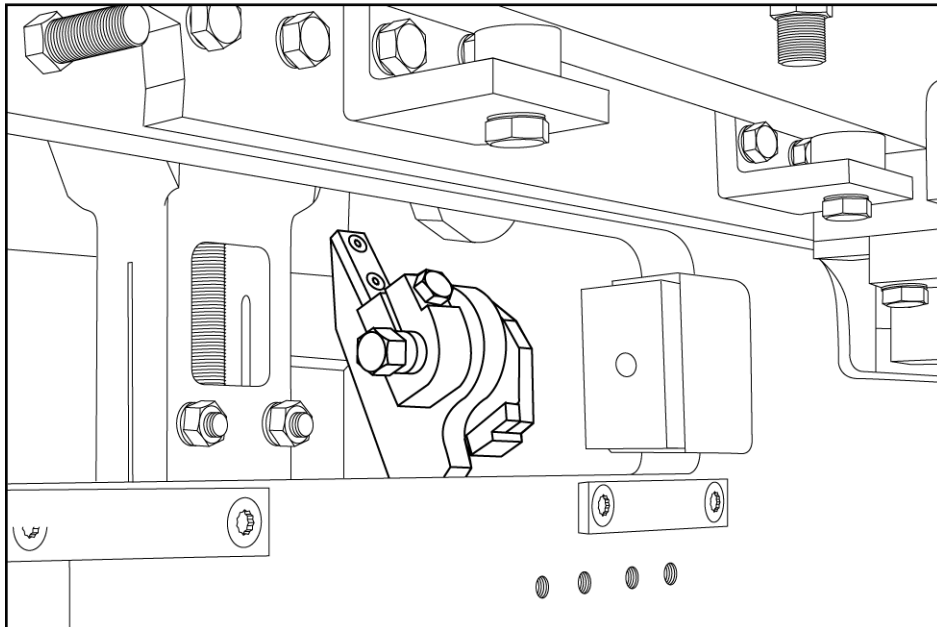

Figure 5.10 MOLD LOCKS IN OPEN POSITION (LEFT LOCK SHOWN)
- 5.4.8 Open mold locks as shown in figure 5.10 below (one on each side).